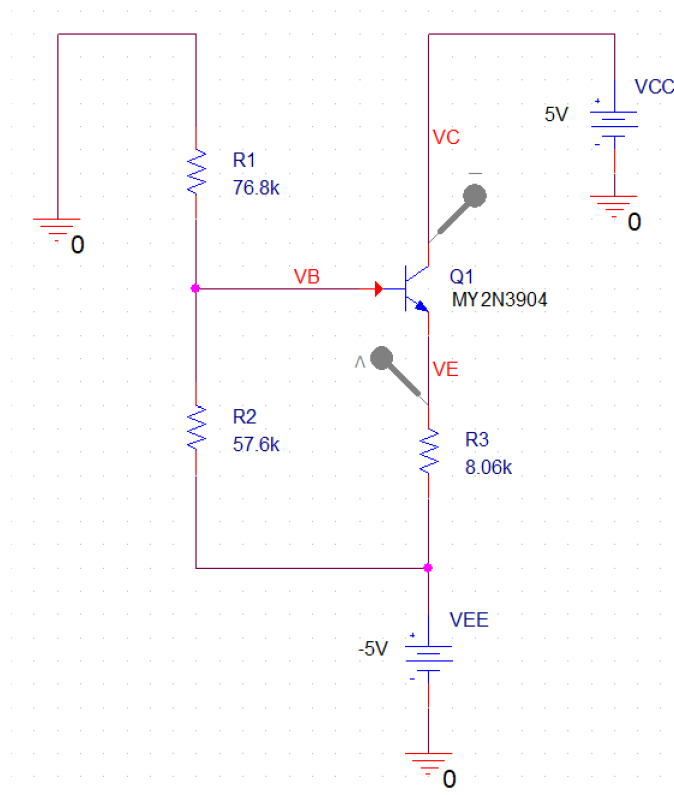
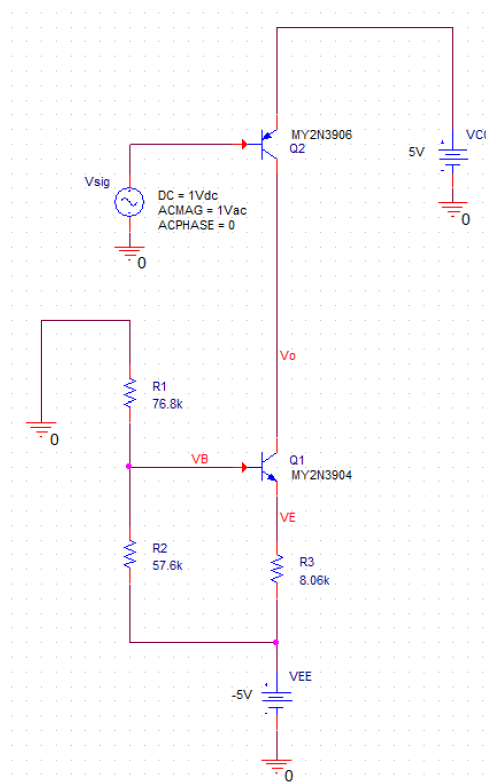
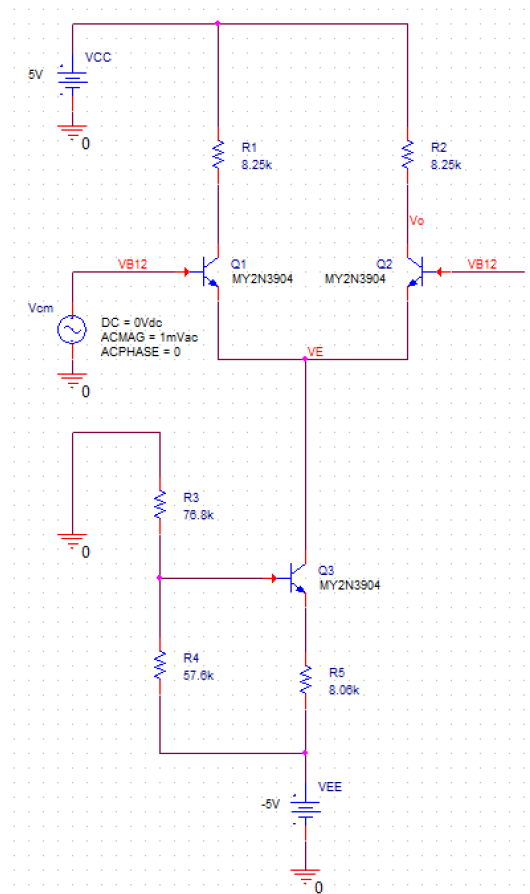

Fig. 1 The schematic diagram for the constant current sink
Fig. 2 Schematic diagram of the common emitter (CE) amplifier
Fig. 4 Schematic diagram of the differential amplifier for common-mode analysis
- 1.1 To characterize the output resistance of a current sink, construct the current sink in PSpice with resistance values and supply voltages, as shown in Fig. 1.
- 1.4 Construct the CE amplifier, as shown in Fig. 2, using a PNP-BJT 2N3906 and the current sink we characterized in Fig. 1. Here, V_{sig} provides the required DC bias for Q_2 and the AC signal applied to the CE amplifier. Double-click V_{sig} in Schematic to open the Property Editor and click Pivot to show the property items vertically. Click the blank field beside the ACPHASE and enter 0 in the data entry field between the New Property tag and the property table. Click on the Display tag and choose Name and Value for ACPHASE. Click  to save the property.
- 1.9 Based on Fig. 1, construct the measurement setup for the constant current sink. Use Wavegen 1 (W1) for VCC and V- for VEE. Connect Scope Ch. 1 Positive (1+) to V_B (the base of Q_1) and Scope Ch. 2 Positive (2+) to V_E (the emitter of Q_1). Connect GNDV+, GNDV-, Scope Ch. 1 Negative (1-), and Scope Ch. 2 Negative (2-) to a common ground.
- 1.14 Based on Fig. 2, construct the measurement setup for the common-emitter (CE) amplifier. Use $V_+ = 5V$ for V_{CC} , $V_- = -5V$ for V_{EE} , and Wavegen 1 (W1) for V_{sig} . Connect GNDV+, GNDV-, and GNDW1 to a common ground line.
- 2.1 As shown in Fig. 4, construct the differential amplifier using two NPN-BJT 2N3904 (Q1 and Q2), two 8.25 k Ω resistors (R1 and R2), and the current sink characterized in Fig. 1. We first analyze its characteristics for DC common-mode signal V_{CM} , followed by the AC common-mode signal v_{cm} . Here, the source V_{cm} in Fig. 4 provides both V_{CM} and v_{cm} to the differential amplifier.
- 2.4 Based on Fig. 4, construct the measurement setup for the differential amplifier. Use $V_+ = 5V$ for V_{CC} , $V_- = -5V$ for V_{EE} , and Wavegen 1 (W1) for V_{cm} . Connect GNDV+, GNDV-, and GNDW1 to a common ground line.